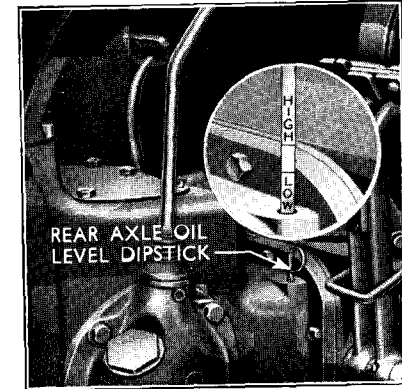

Figure 14
**Rear Axle.**—Check and refill if necessary to the high mark on the dipstick at the left-hand rear side with oil of the correct grade (see page 33 and Fig. 14).
The oil in the rear axle should give adequate service for one year, provided the oil level is kept at the “ High ” mark on the dipstick; the dipstick is in the left-hand side of the housing at the top, as shown in Fig. 14. Use a good grade of gear oil of S.A.E. 90 viscosity in summer and winter. For extremes of climate use the grades given on page 9. Oil capacity 10 imperial gallons (45.46 litres).